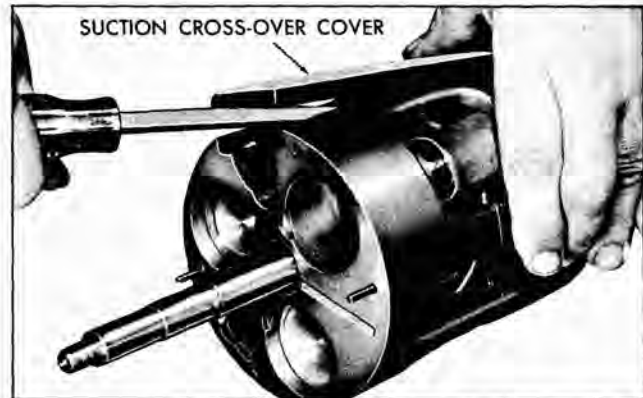

Fig. 5-72 Removing Suction Crossover Cover
11. Remove suction crossover plate as shown in Fig. 5-72 and discard gasket.